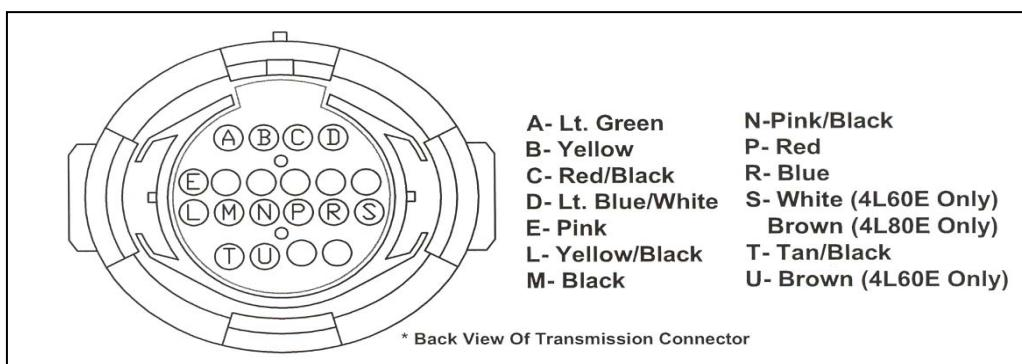

Figure 6.28 Transmission Connector Pin Out
***Note:** Harness numbers 60217 and 60218 have been wired for both the 4L60E and the 4L80E. All harnesses have the transmission connector pre terminated to allow use of the 4L60E transmission. In applications where a 4L80E is to be used, follow this procedure to change your transmission connector to ensure all functions of the transmission work properly. See Figure 6.28 for repining the transmission connector